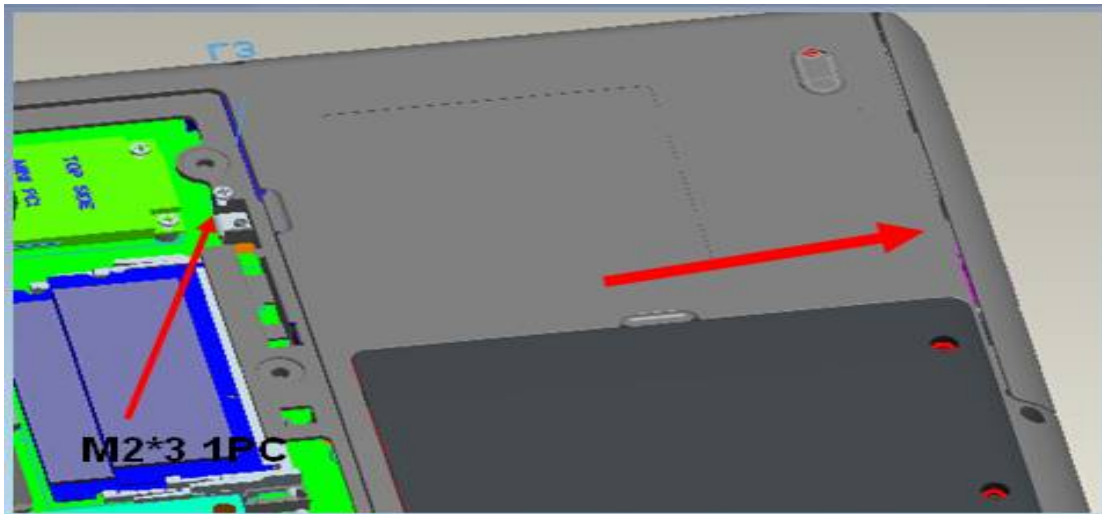

Figure 4-8-1 Remove the screw on ODD Bezel and ODD
The following describes the procedure for removing the display assembly (See Figure 4-8-1 to 4-8-7).
3. Remove the screws of the ODD and ODD Bezel. (See Figure 4-8-1)